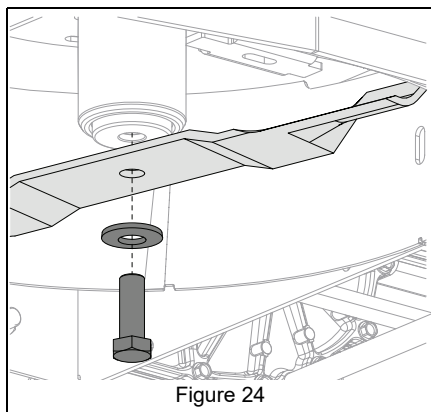

Figure 24
3. Remove hardware securing blades to spindles and remove blades. Retain all hardware for reinstallation. See Figure 24.
See Figure 24.